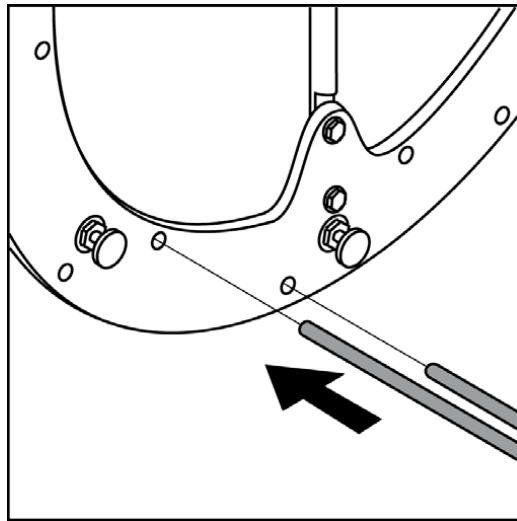

Figure 11
4. Put the points of the meat forks through the appropriate holes in the rotor disks (see Figure 11).